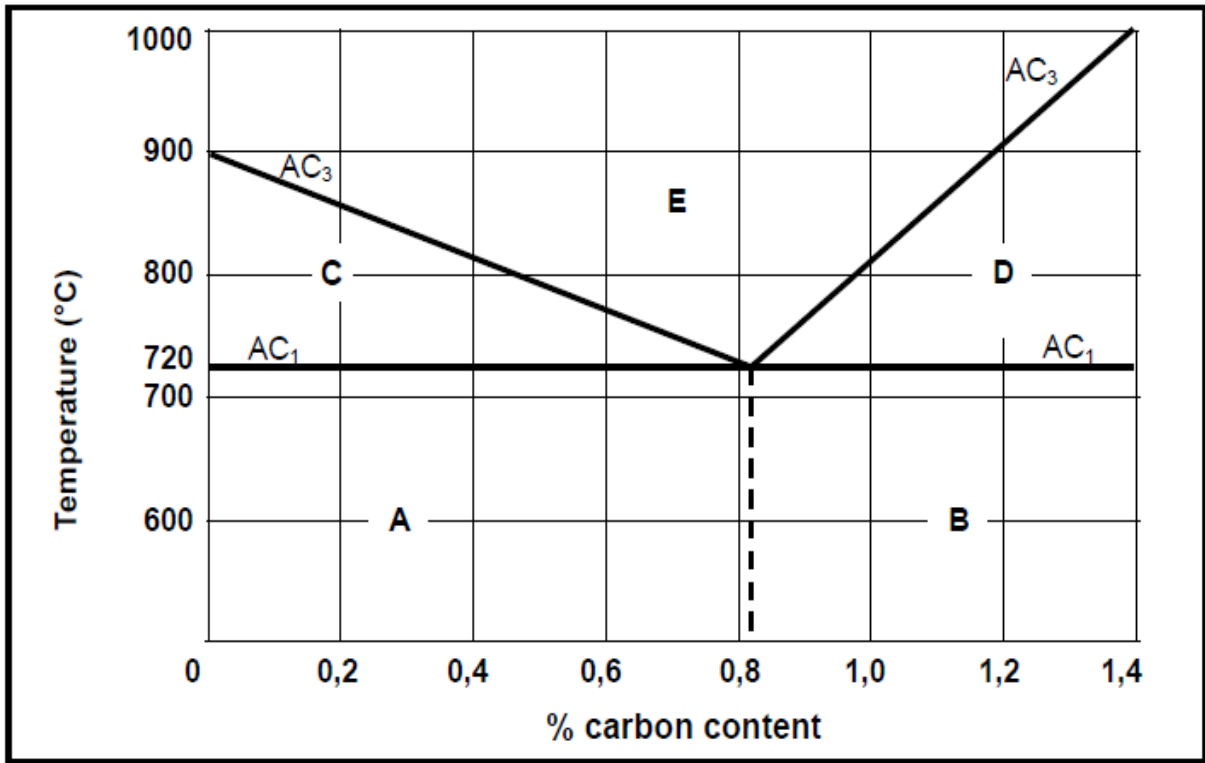

FIGURE 5.1
5.1 FIGURE 5.1 below shows an iron-carbon equilibrium diagram. Answer the questions that follow.